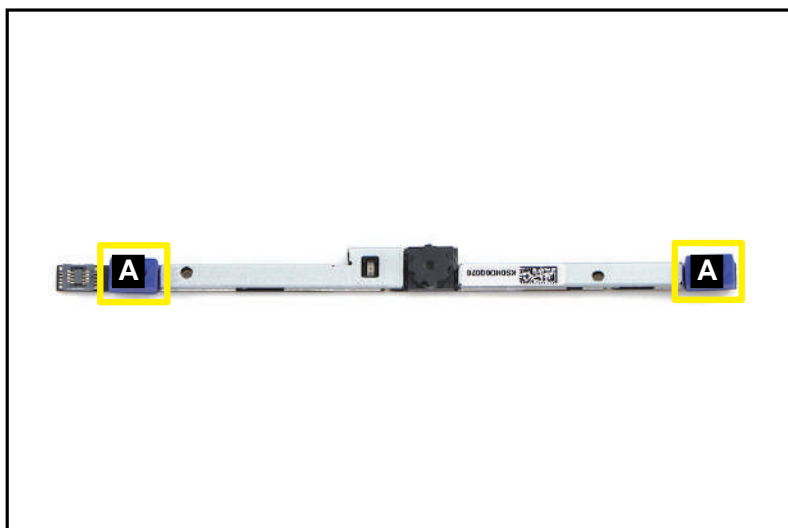

Figure 3-90. Replacing the Camera Module
1. Carefully attach the microphone rubbers (A) onto their respective slots on the camera module (Figure 3-90).